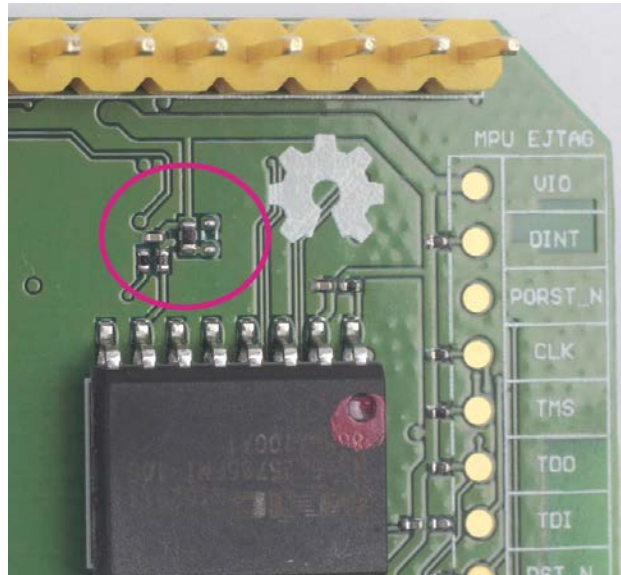

Figure 8 JTAG resistors on LinkIt Smart 7688 Duo bottom view
- 1) Find a group of resistors on the bottom side of LinkIt Smart 7688 Duo (top-right view) as circled in Figure 8.